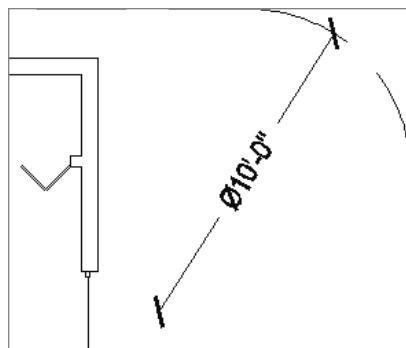

FIGURE 12.34 The diameter dimension positioned on the curve
4. Click to place the radius text in the dimension. The \varnothing prefix indicates that this is a diameter dimension. Where you pick on the curve determines the angle of the radius dimension (see Figure 12.34).